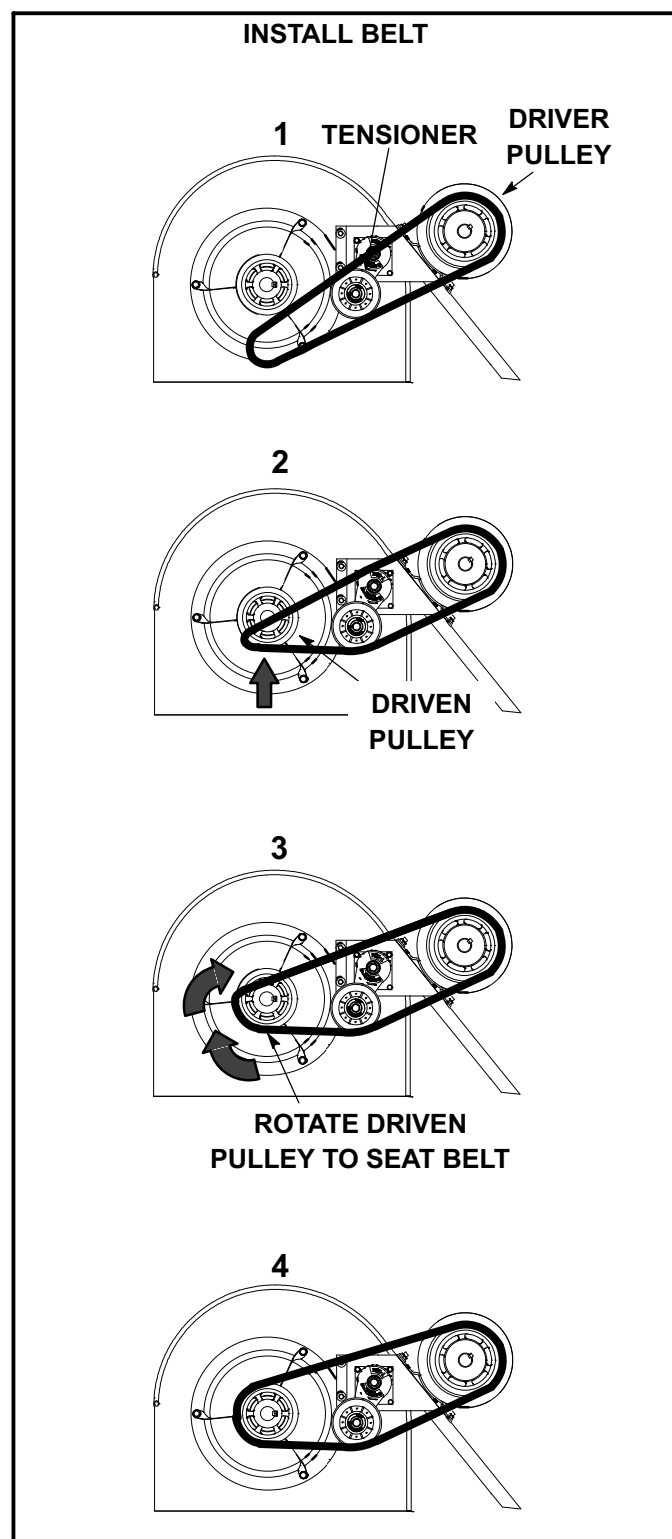

FIGURE 10
- 6- Replace blower belt. See figure 10.